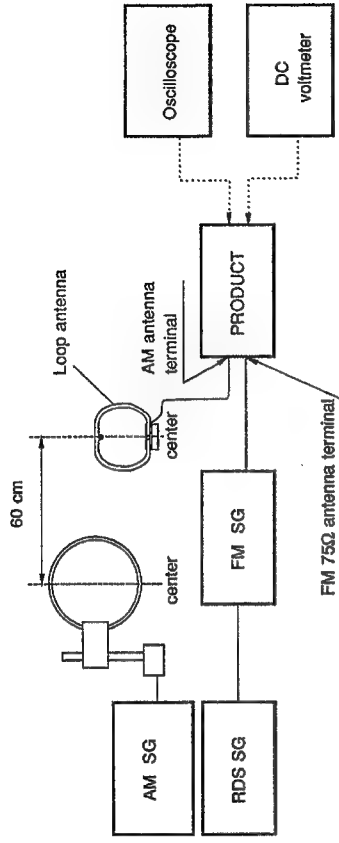

Fig. 1 FM and AM adjustment wiring diagram
- Connect the wiring as shown in Fig. 1.